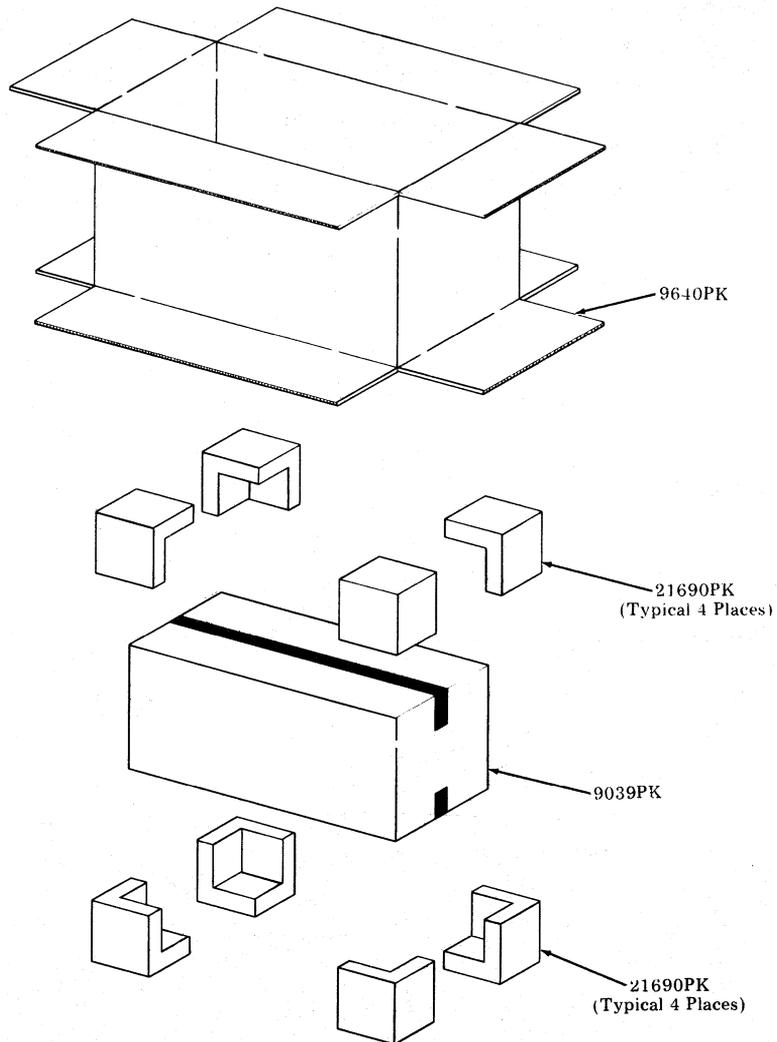

Fig. 59
See Fig. 59.
- Step 8. Place a 21690PK plastic corner on each of the four corners of the inner carton. See Fig. 59.
- Step 10. Place a 21690PK plastic corner on each of the four corners of the inner carton. See Fig. 59.